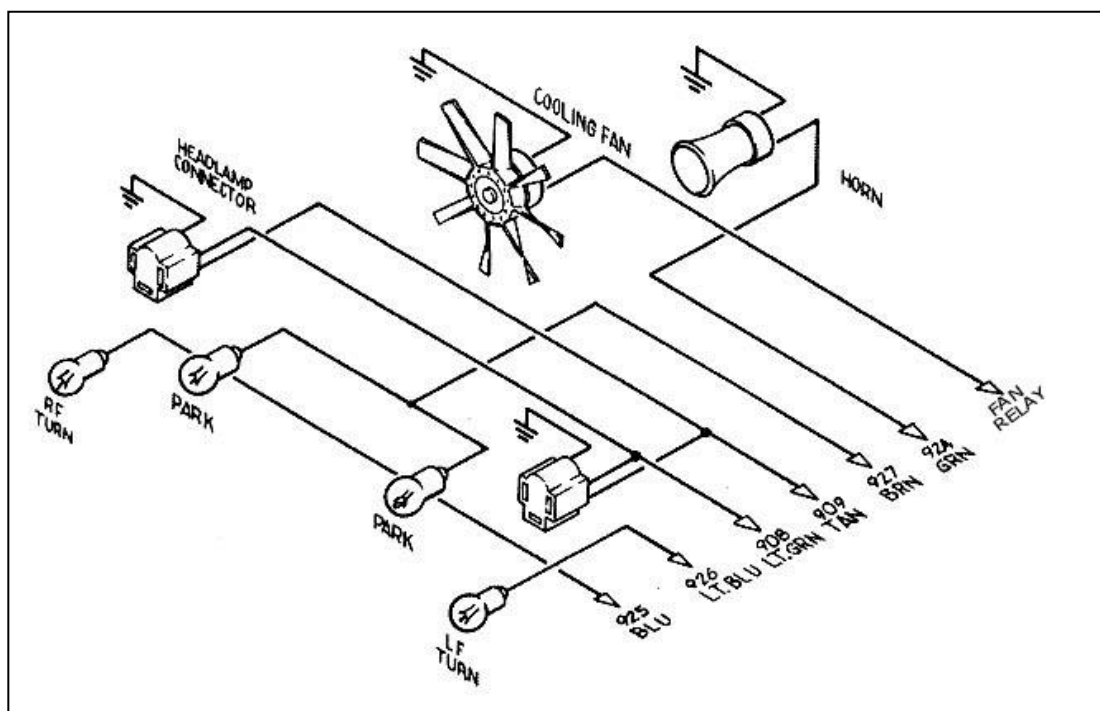

Figure 8.2 HEADLIGHT SECTION A Wiring
8.2 HEADLIGHT SECTION A. See Figure 8.2